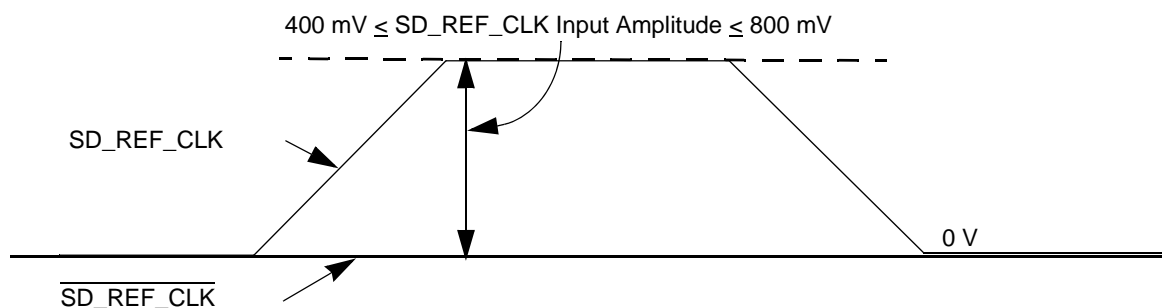

Figure 46. Single-Ended Reference Clock Input DC Requirements
- The SD_REF_CLK input average voltage must be between 200 and 400 mV. Figure 46 shows the SerDes reference clock input requirement for single-ended signaling mode.